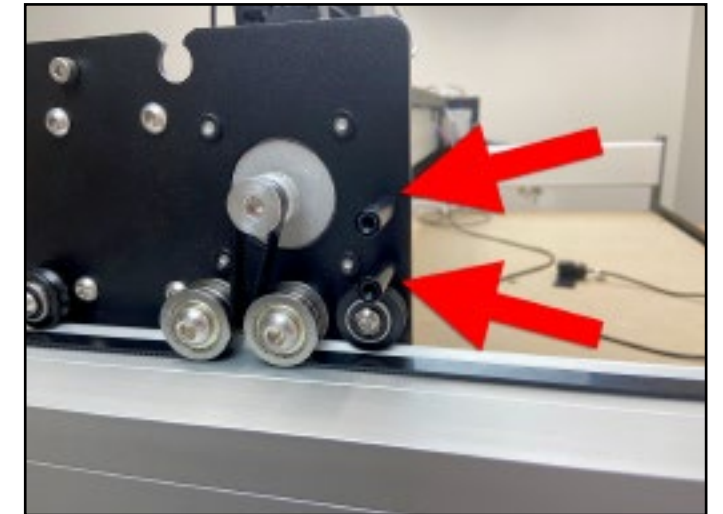

Figure 7-8
4. Install the two (2) male to female 30mm standoffs to the **OUTSIDE** of the Y2-carriage. See **Figure 7-8**.